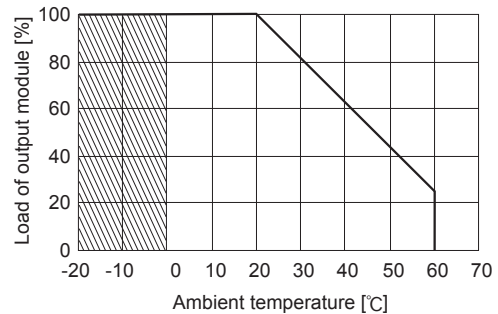

Fig. 6.4 Derating curve based on ambient temperature (-K)
- The difference from standard is shown Fig.6.4.